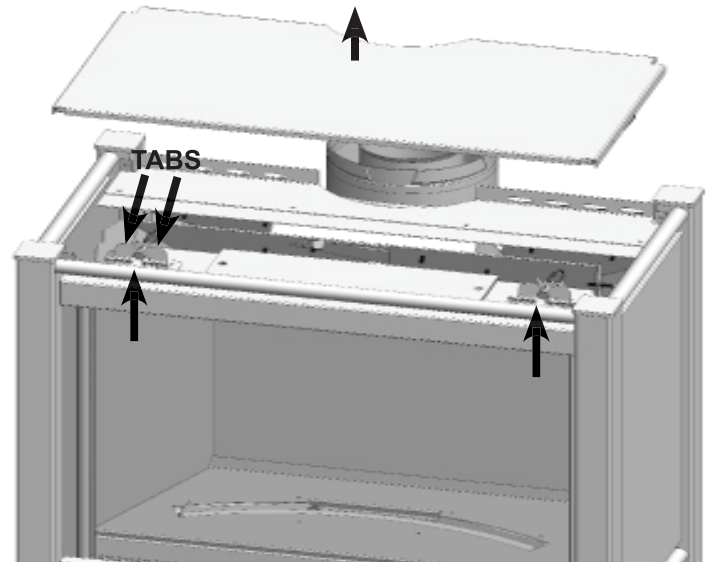

Fig.1
2. Remove the top lid assembly from the top of the appliance and set it aside. **(Fig.1)**
3. There are two door latch mechanisms on top of the glass door. **(Fig.1)** Pull the tabs forward and up off the door tabs.